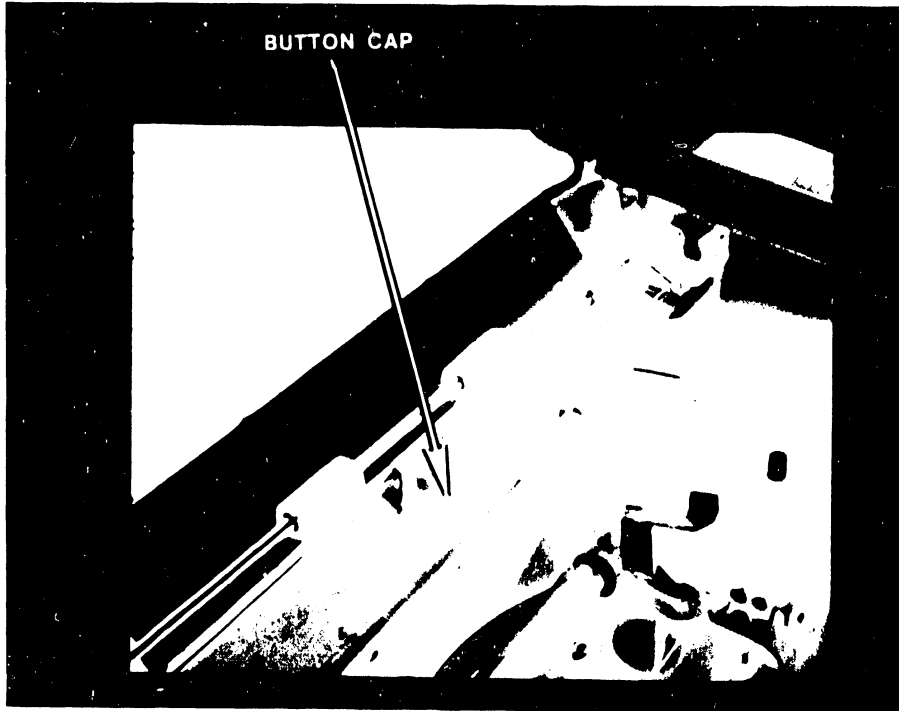

FIGURE 5 PAPER TENSION BUTTON REPLACEMENT
5. Replace Paper Tension Button, if present button is broken (see Figure 5):